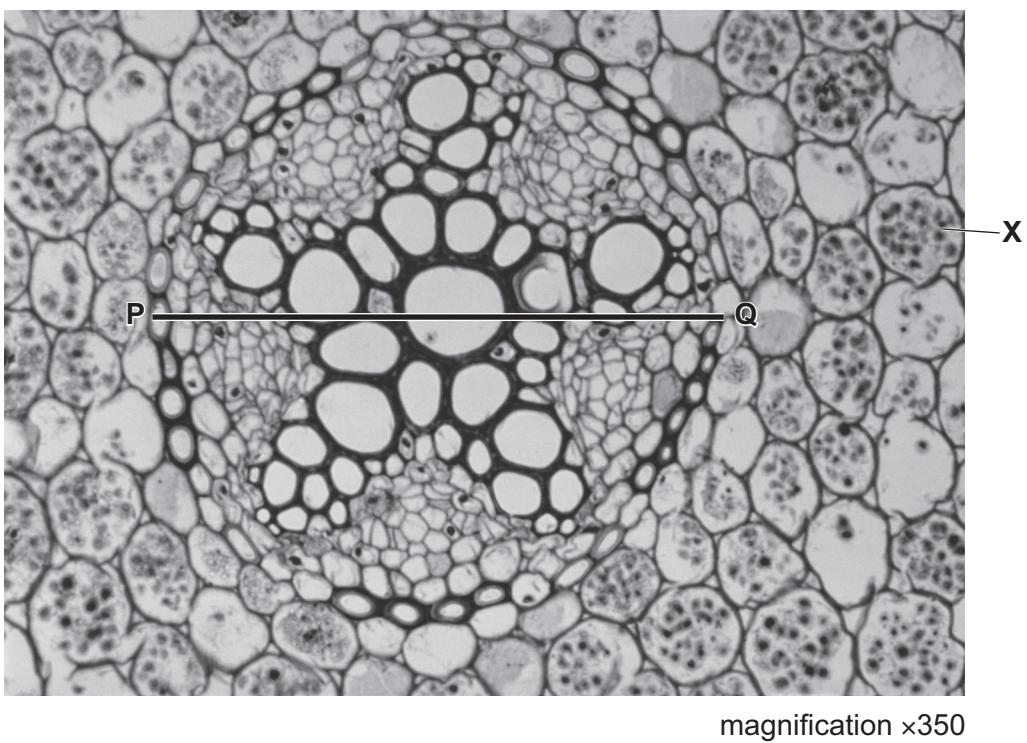

Fig. 2.2
- (b) Fig. 2.2 is a photomicrograph of a vascular bundle from the root of the same plant species as the stem on K1.
- (ii) Identify **one** observable similarity and **two** observable differences between the vascular bundle in Fig. 2.2 and the vascular bundle on **K1**.
- (iii) The cell labelled **X** on Fig. 2.2 has structures that contain a storage polysaccharide.